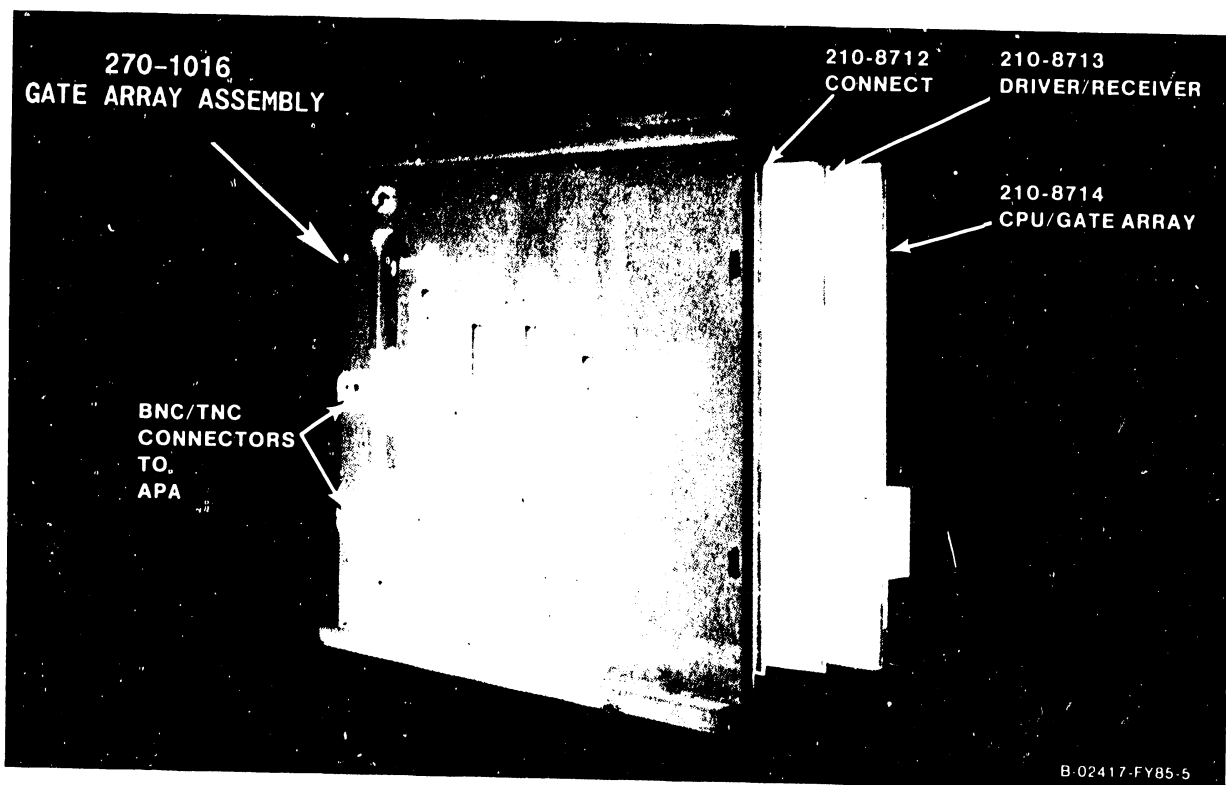

Figure 7-22. 6550 Gate Array TC Panel Assembly
2. Disconnect the coaxial cable from the BNC/TNC connectors, and the modem cables from the TC connectors of the GATC panel assembly. (Figure 7-22).